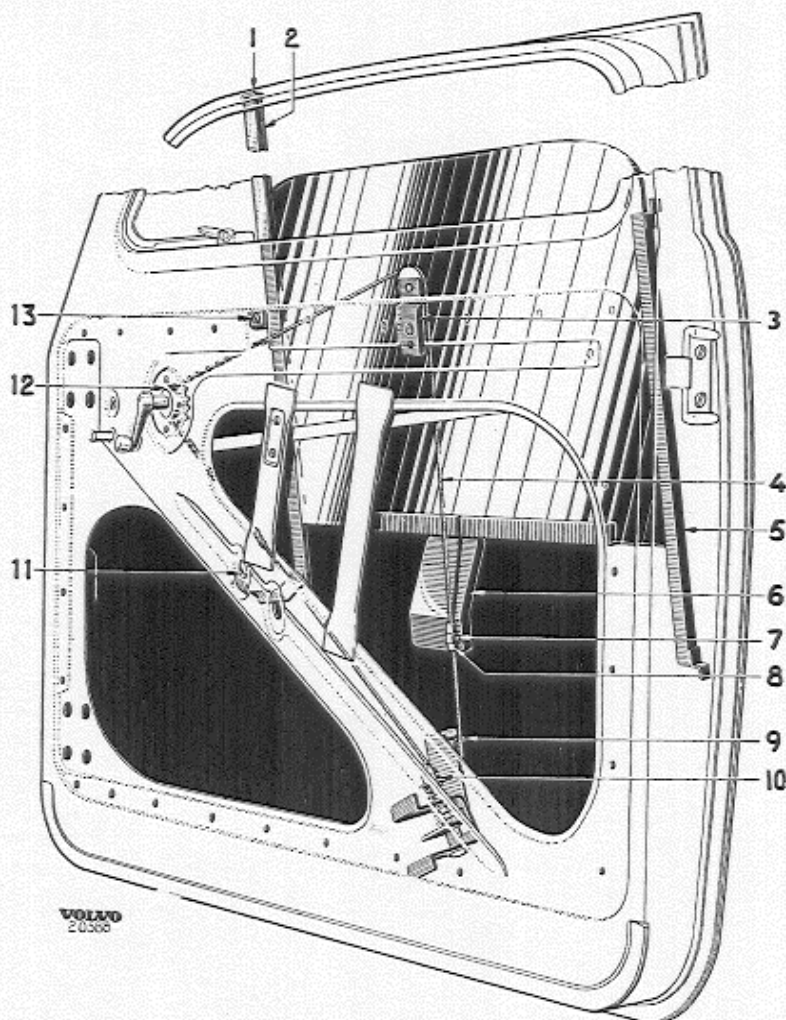

Fig. 40. Window lift
5. Remove the upper screw (1, Fig. 40) and the central screw (13) which retain the front run channel (2).